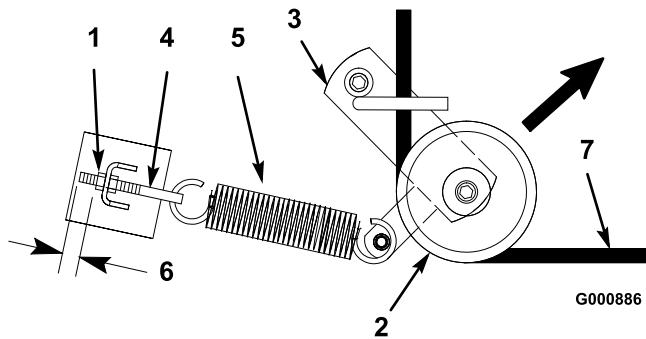
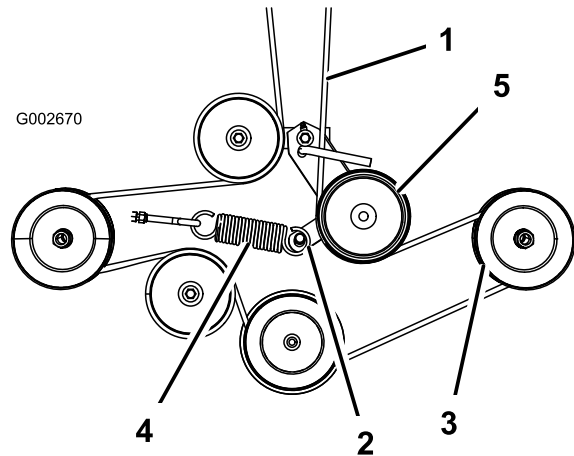

Figure 48
Figure 49
4. Pull the idler pulley in the direction shown in Figure 48 and roll the belt off of the pulleys.
5. Route the new belt through the idler arm and around the idler pulley (Figure 48).
6. Pull the idler pulley in the direction shown in Figure 48 and route the belt onto the other pulleys (Figure 49).
Note: Check to ensure that the length of exposed thread on the spring eye bolt is 1/8 in. (3 mm) (Figure 48).